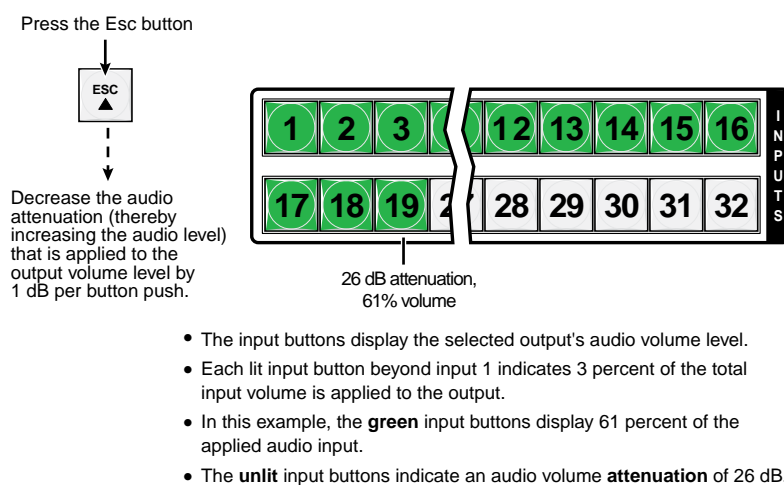
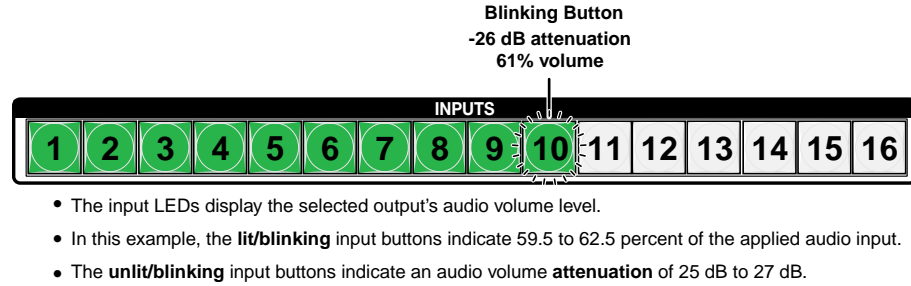

Figure 48. Adjust the Output Audio Volume
Figure 49. Volume Display on a 16-input-button Switcher
4. **Change the volume:** Press and release the Esc (▲) button once (see figure 48) to increase the volume by 1.5%.
Press and release the Esc (▲) button several more times (see figure 48) to increase the volume by 1.5% per button press. Note the input button indication changes that occur each time the Esc (▲) button is pressed and released.
Figure 48 show the result of pressing the Esc (▲) button a total of 13 times. In figure 48, figure 49, and figure 50, the lit or blinking input buttons indicate 61 percent of the applied audio input. The unlit input buttons indicate an audio volume attenuation of 26 dB.
Figure 49 shows the same volume (61%) as in figure 48, but displayed on a 16-input-button switcher, such as a CrossPoint Ultra 168 HVA.
Figure 50 shows the same volume (61%) as in figure 48, but displayed on a 12-input-button switcher, such as a MAV Plus 128 RCA.